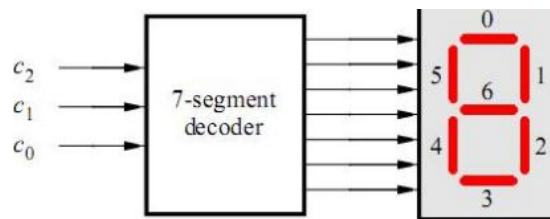

Figure 61. A 7-segment decoder.
Figure 61 shows a 7-segment decoder module that has the three-bit input $c_2c_1c_0$. This decoder produces seven outputs that are used to display a character on a 7-segment display. Table 1 lists the characters that should be displayed for each valuation of $c_2c_1c_0$. To keep the design simple, only four characters are included in the table (plus the 'blank' character, which is selected for codes 100 – 111).
2. Create a VHDL entity for the 7-segment decoder. Connect the $c_2 c_1 c_0$ inputs to switches SW2–0, and connect the outputs of the decoder to the HEX0 display on the DE2 board. The segments in this display are called HEX00, HEX01, ..., HEX06, corresponding to Figure 61. You should declare the 7-bit port `HEX0 : OUT STD LOGIC VECTOR(0 TO 6);` in your VHDL code so that the names of these outputs match the corresponding names in the DE2 User Manual and the DE2 pin assignments.csv file.